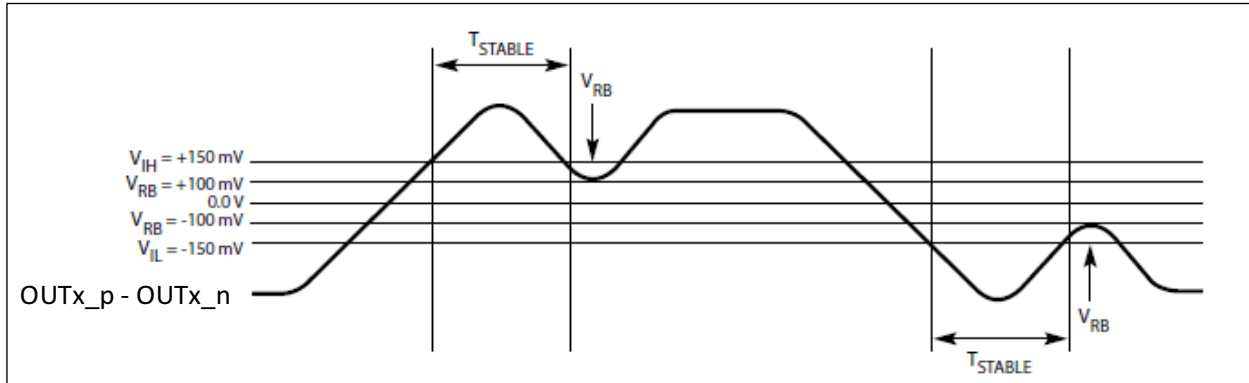

FIGURE 4-5: Differential Measurement Points for Ringback.
- 12: t_{STABLE} is the time the differential clock must maintain a minimum ± 150 mV differential voltage after 20 rising/falling edges before it is allowed to droop back into the $V_{RB} \pm 100$ mV differential range. See Figure 4-5.